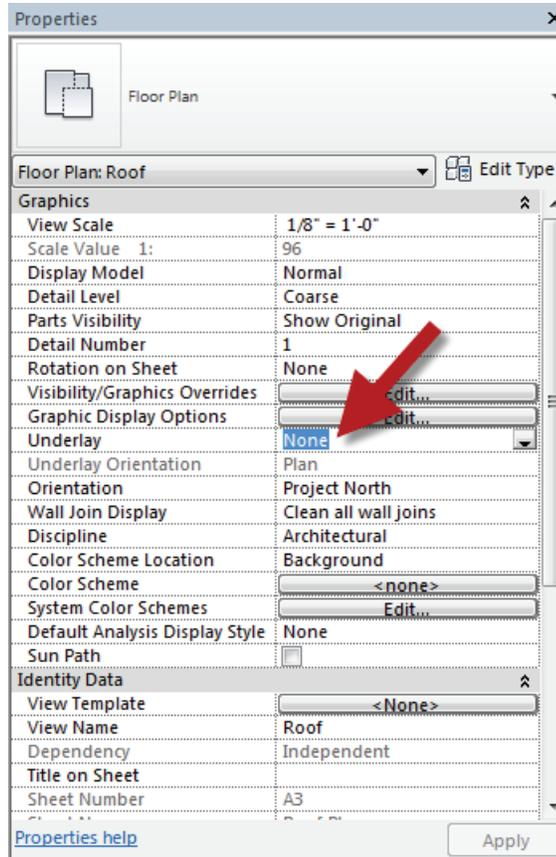

FIGURE 7-2.9 Roof plan view; view property
20. Set the **Underlay Parameter** to **None** (Figure 7-2.9).